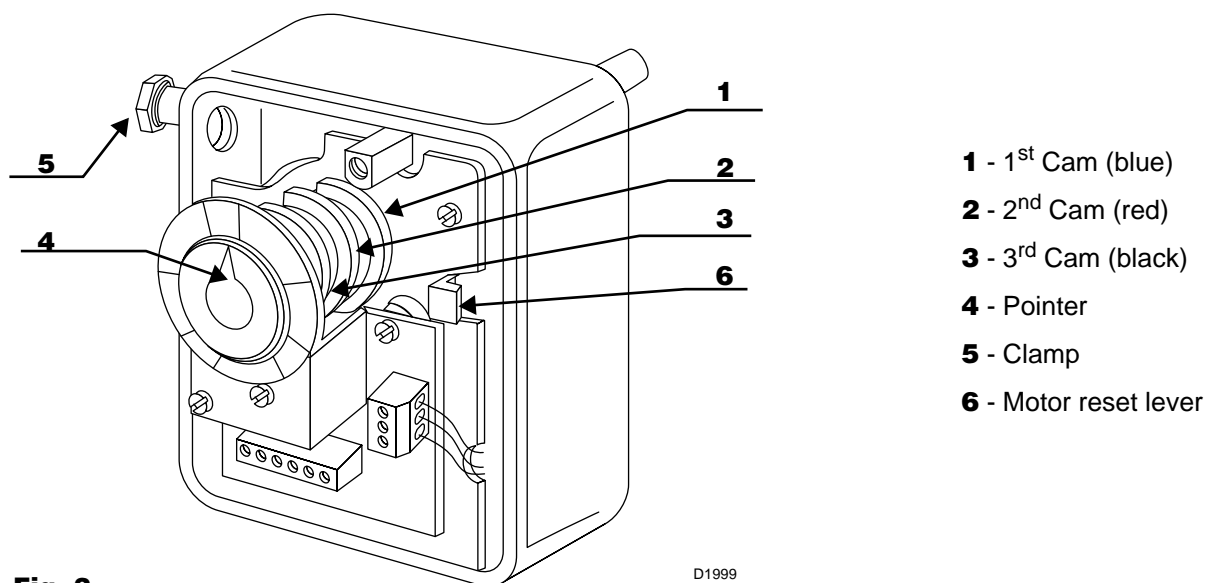

Fig. 2
- Acting on the re-set lever 6) fig.2 disjoin the cam 1) fig.5 from the motor of the servomotor.
This adjustment has to be carried out after the settings of the pressure controller and of the combustion head. With the burner in operation, switch off the elec. supply of the servomotor and re-set it by acting on the lever (6) (fig. 2).